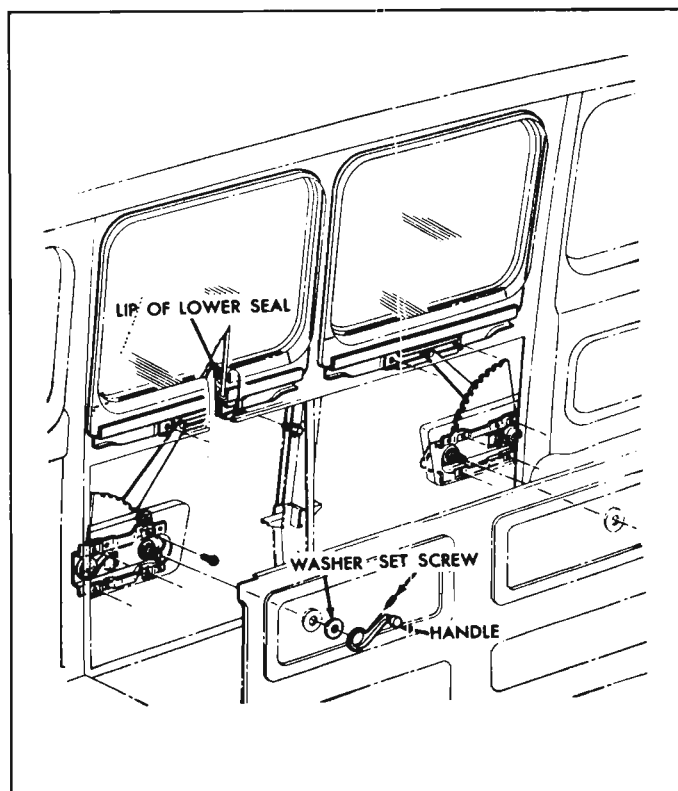

Fig. 10-95a—Window Seal, Weatherstrip and Regulator
1. Remove window regulator handle set screws and remove both handles and washers (fig. 10-95a).
5. Remove upper weatherstrip seal from window opening (fig. 10-95a).
2. Install rubber seal with lip of lower seal towards outside as shown in Figure 10-95a.
6. Install trim panel with retaining screws. Install handles and washers and retain with set screws (fig. 10-95a).
1. Remove window regulator handles. Remove trim panel retaining screws and remove trim panel (fig. 10-95a).